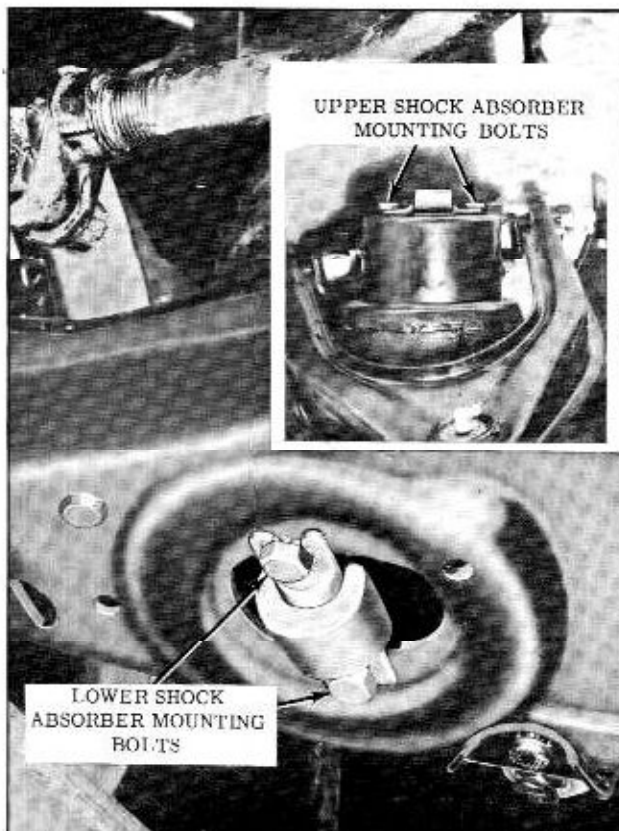

Fig. 5-3 Shock Absorber Attachment
2. If mountings are satisfactory, disconnect the lower mount and pump VERTICALLY several times. If smooth hydraulic resistance is present in both directions the shock absorber is satisfactory. (Fig. 5-3)
1. Remove the 2 lower and 2 upper shock attaching bolts. (Fig. 5-3)